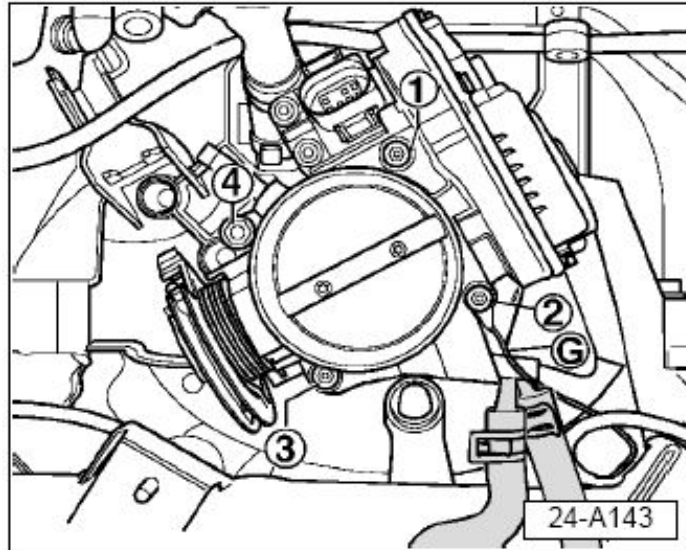

Figure 12. The screws (1, 3 and 4), bolt (2), and ground wire (G).
33. Install throttle body onto intake manifold. Secure with screws (Figure 12, Points 1, 3 and 4). Tighten to 10 Nm (7 ft. lbs.).
34. Install ground wire (Figure 12, G) with bolt (Figure 12, 2), securing the throttle body. Tighten to 10 Nm (7 ft. lbs.).